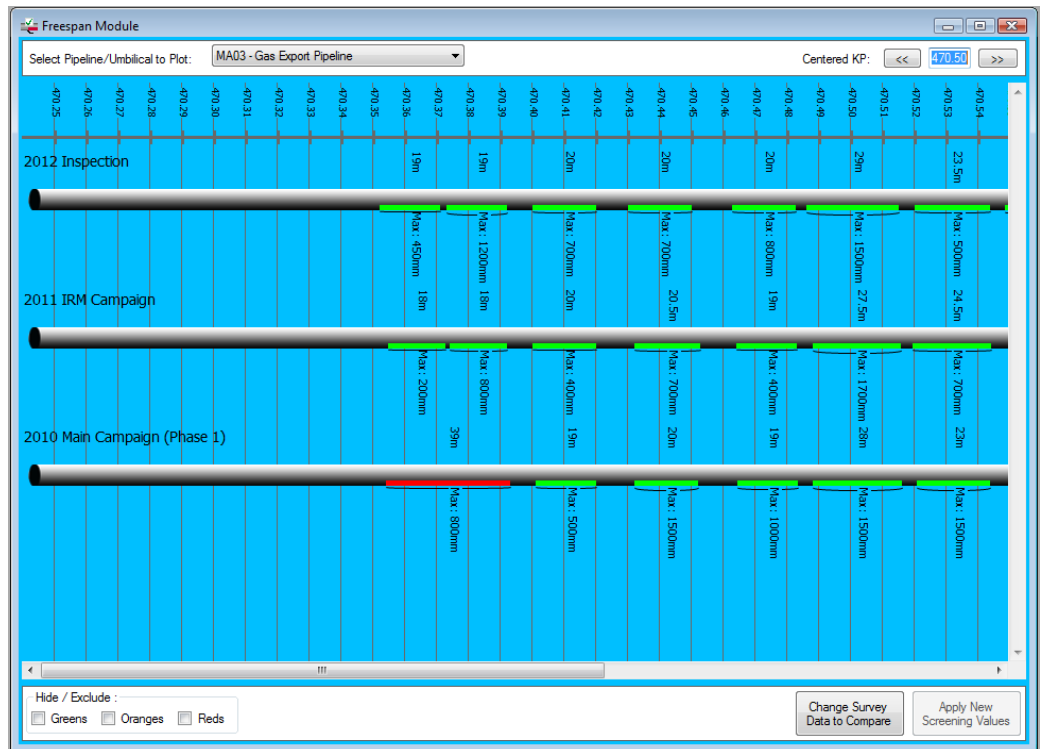

Figure 4 - Trending Functionality
- Trending on available data (Figure 4)